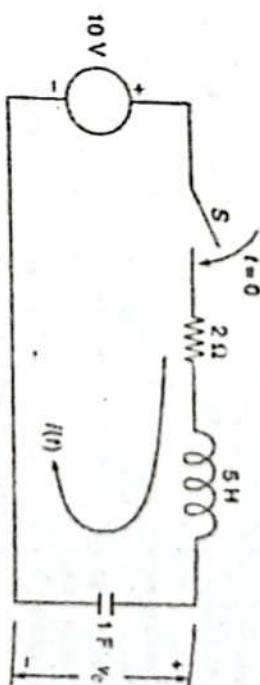

Fig. 18
Q.1. Solve for $v_C(t)$ in the circuit of Fig. 18. The circuit is initially quiescent (zero initial conditions).